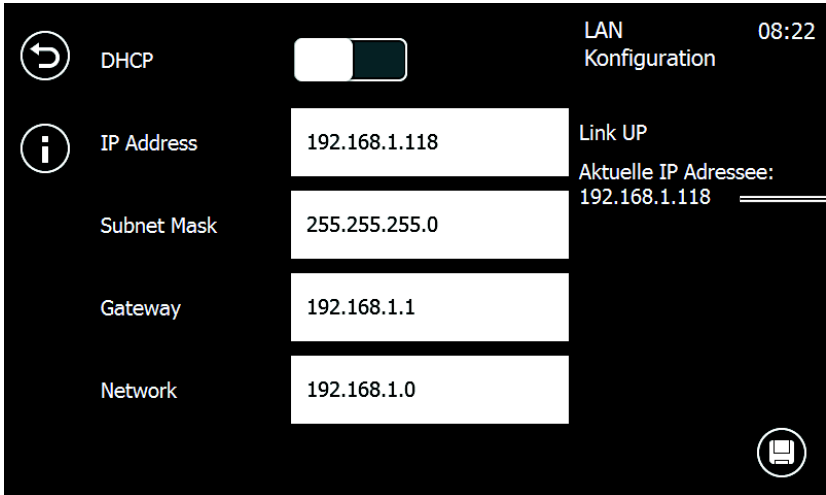

Fig. 7: LAN network configuration
4. Enter values for (see Fig. 7):
The current connection status is shown at the bottom of the screen (see 1, Fig. 7).